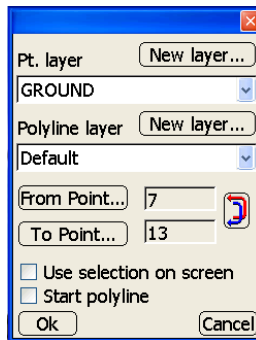

Figure 6-12. Select Tape Dimension Measurements
2. Select the layer in which to save the points and the polyline (Figure 6-12 on page 6-11).
3. Press the **From Point/To Point** buttons to enter the beginning and ending of a tape measurement at a known point on the pop-up keyboard (Figure 6-12 on page 6-11).